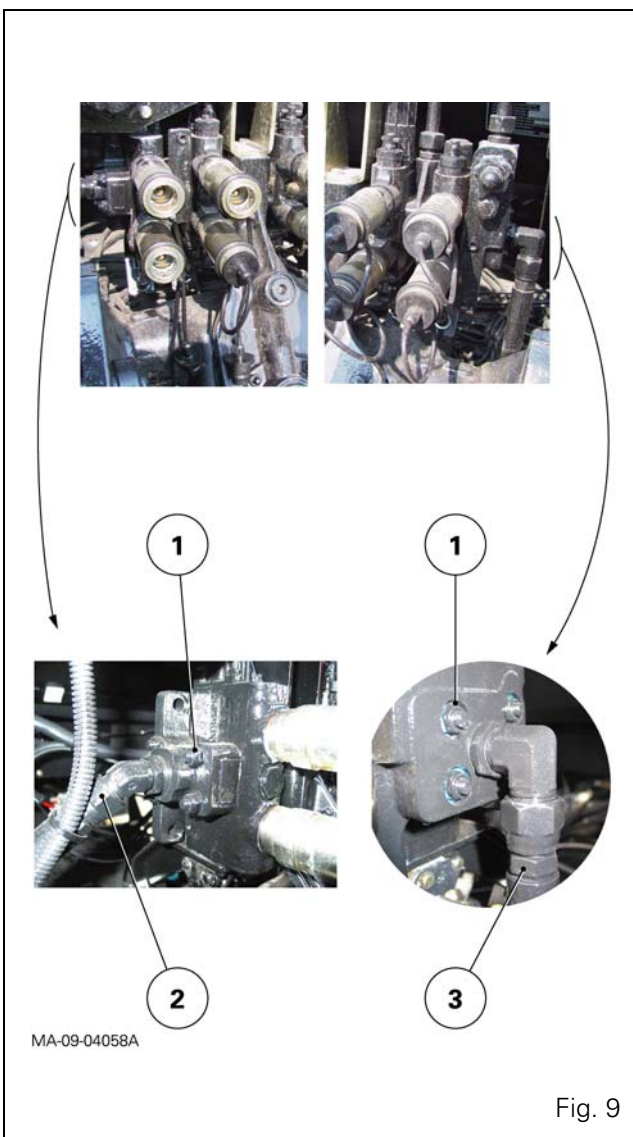

Fig. 9
- the supply hose (3) from the right-hand hydraulic cover (Fig. 9);
- the outlet hose (2) to the lift control spool valve (Fig. 9).
12. Remove the locknuts (1) located at the end of the spool valve set (Fig. 9).